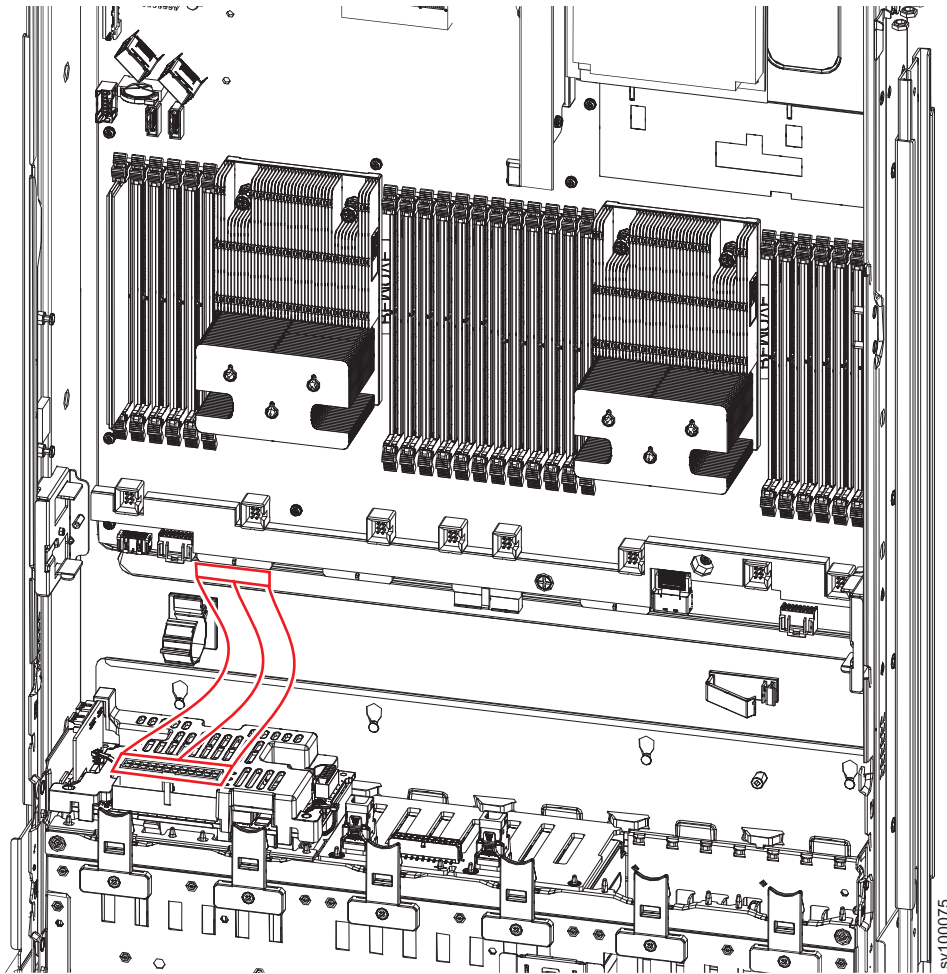

Figure 101. 2145-SV1 battery backplane power cable
5. Remove the power cable between the battery backplane and the system board, as shown in Figure 101 on page 122.